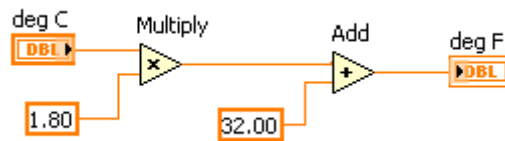

Figure 2.6
6.  Use the Wiring tool, shown in this media, to wire the icons as shown in Figure 2.6.